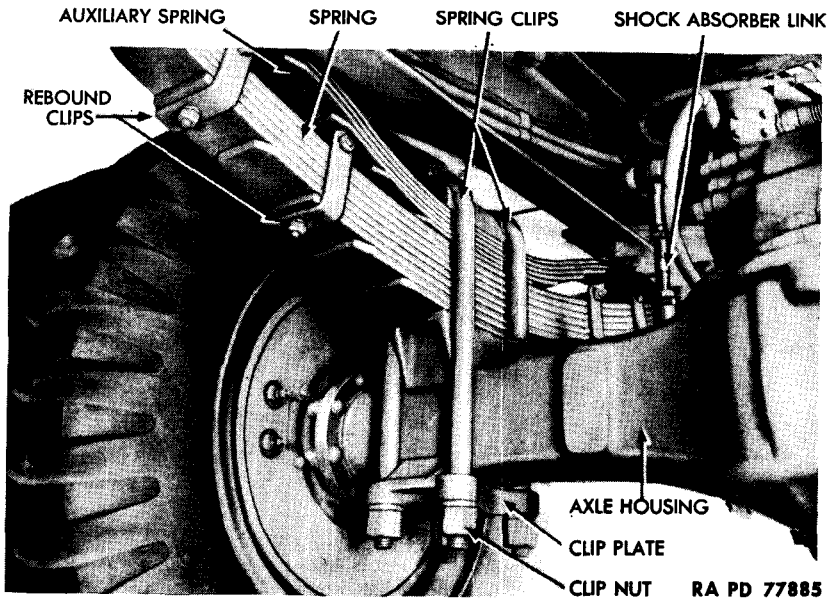

Figure 84 — Rear Spring Installed
a. **Description (fig. 84).** The rear springs are attached to frame side rails by a bracket at the front and a shackle at the rear. The springs are attached to axle housing by two spring clips which clamp center of spring to spring clip plate on housing. Auxiliary springs which help to carry heavy loads are mounted above rear springs, and contact special brackets attached to frame when rear springs flatten out.
b. **Removal (fig. 84).**
(6) REMOVE SPRING. Drive spring pins out from inner side of spring, and remove spring.
c. Installation (fig. 84).
(1) INSTALL SPRING. Position spring between shackle and bracket, and insert spring pins, slotted side down, from outer side of spring at each end. NOTE: Use new parts if old parts show wear.
(2) INSTALL DRAW KEYS. Wedge draw keys at each end against slotted side of pin, and secure with the four nuts and lock washers. NOTE: Use new draw keys and nuts.
(3) INSTALL LUBRICATION FITTINGS. Screw fittings into outer side at each end of spring.
(4) INSTALL SPRING CLIPS. Position clip seat and clips to spring and clip plate on axle housing, and secure with the four lock washers and nuts.
(5) CONNECT SHOCK ABSORBER (par. 138).